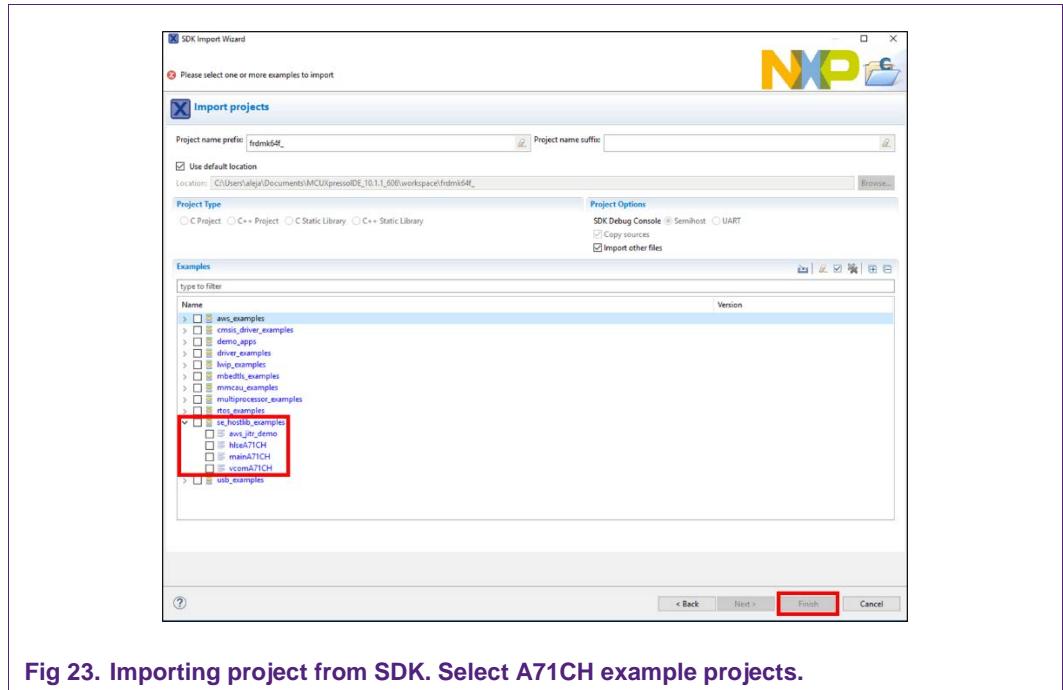

Fig 23. Importing project from SDK. Select A71CH example projects.
3. A list with different elements included in the SDK will appear; click on 'se-hostlib-examples' and 'Finish' (Fig 23).